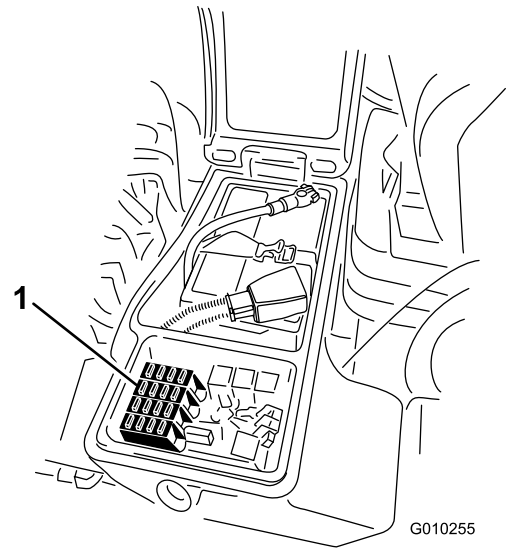
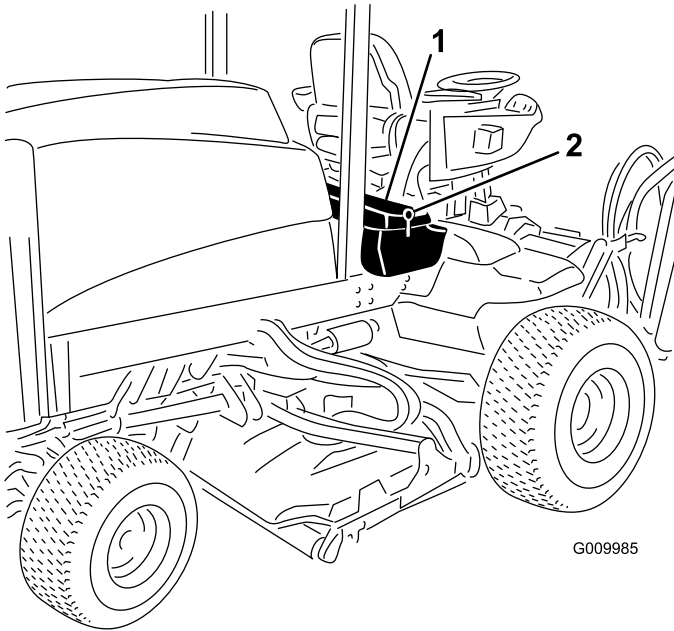

Figure 59
Figure 58
1. Loosen the latch for the cover of the right storage box and raise the cover (Figure 58).
3. Close the cover of the right storage box and secure the cover with the latch (Figure 58).
1. Loosen the latch for the cover of the right storage box and raise the cover (Figure 58) to expose the fuse block (Figure 59).
2. Replace the open fuse(s) as needed (Figure 59).